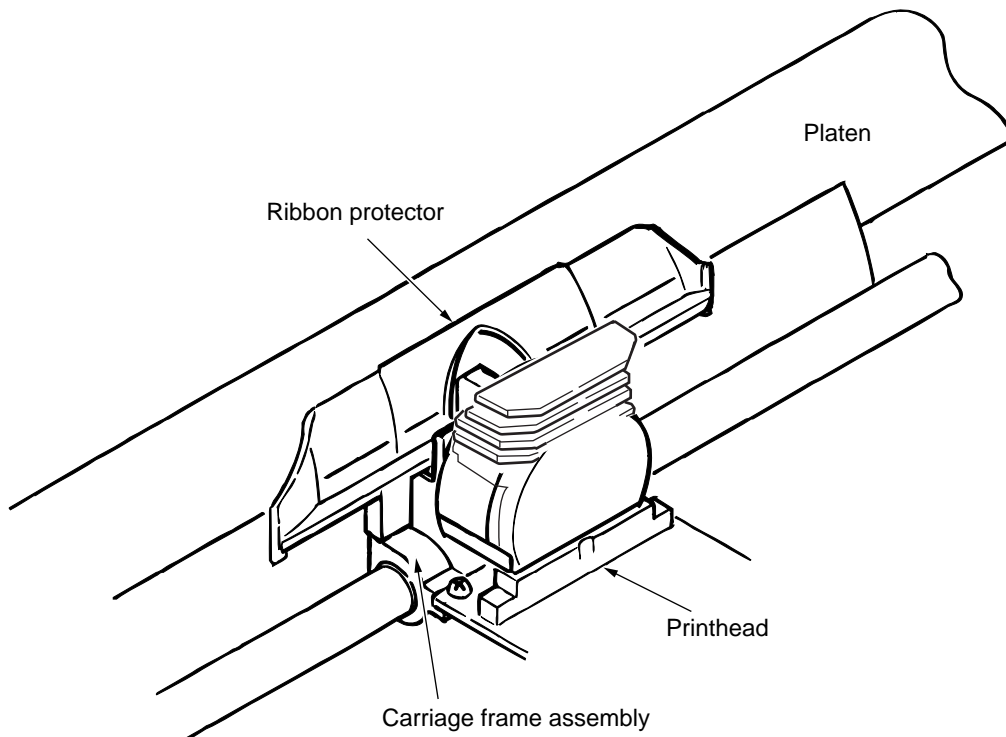

Figure 2-15
(4) Top line print mechanism (See Figure 2-15).